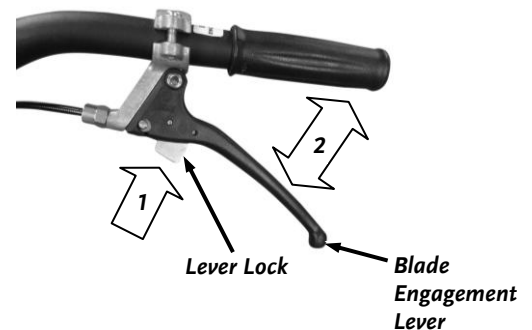
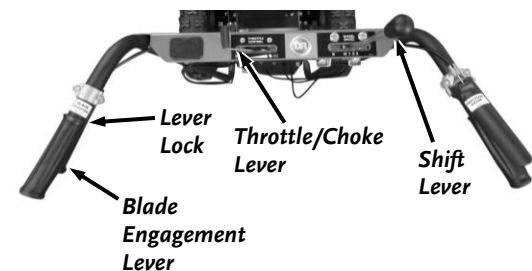

Figure 6
Figure 16
- Press the Lever Lock (1), pull and release the Blade Engage Lever a few times (2), then fully release the Blade Engage Lever (**Figure 6**).
- Have a helper pull the Blade Engagement Lever as far as it will go towards the Handlebar (**Figure 6**). The Brake Pad should not be touching the Pulley and the Belt should be tightened around the Pulleys.
1. Engage the Blade by pressing the Lever Lock (see **Figure 6** on page 10), then squeezing the Blade Engagement Lever to the Handle (**Figure 16**).
1. Release the Blade Engagement Lever (**Figure 16**).
1. Stop the Blade by releasing the Blade Engagement Lever (**Figure 16**).